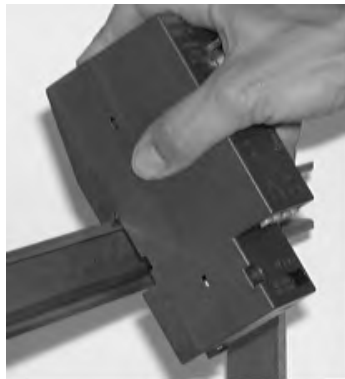

Figure 5-1 Installation of a Module on a Standard Rail
- Fit the upper catch of the module onto the standard rail and push in the lower part of the module as shown in Figure 5-1 until it audibly clicks into position.